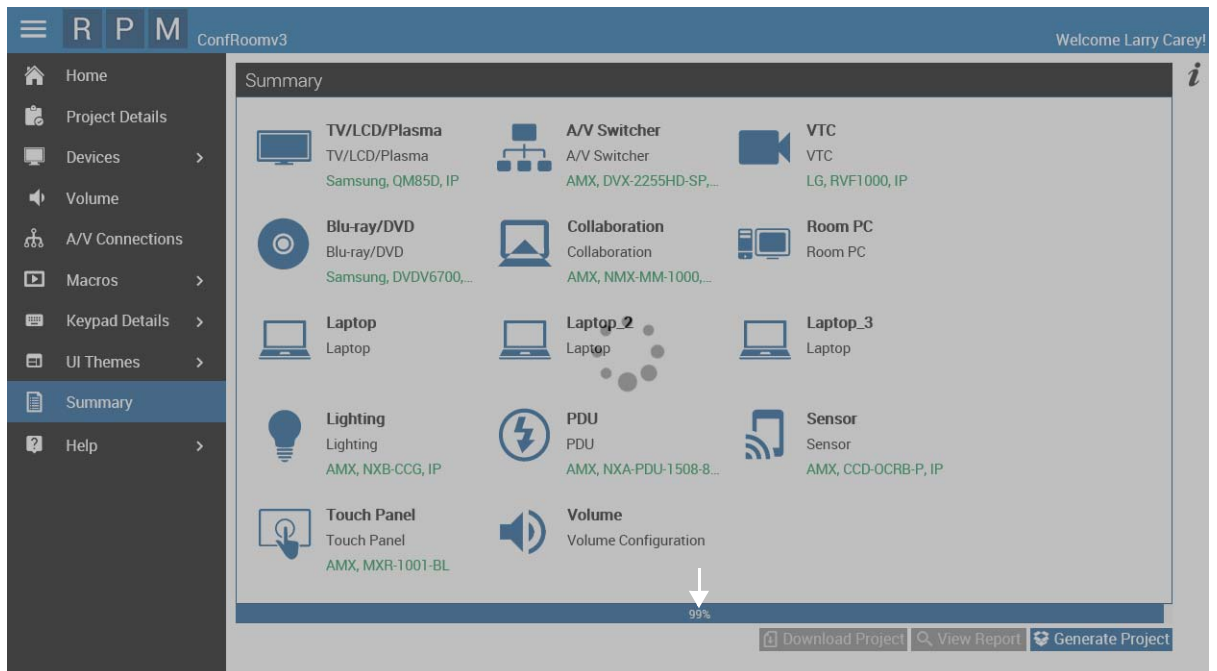

FIG. 34 RPM Summary Page - Project Generation progress
a. Click **Generate Project** to generate the RPM project. Progress is indicated at the bottom of the page (FIG. 34):